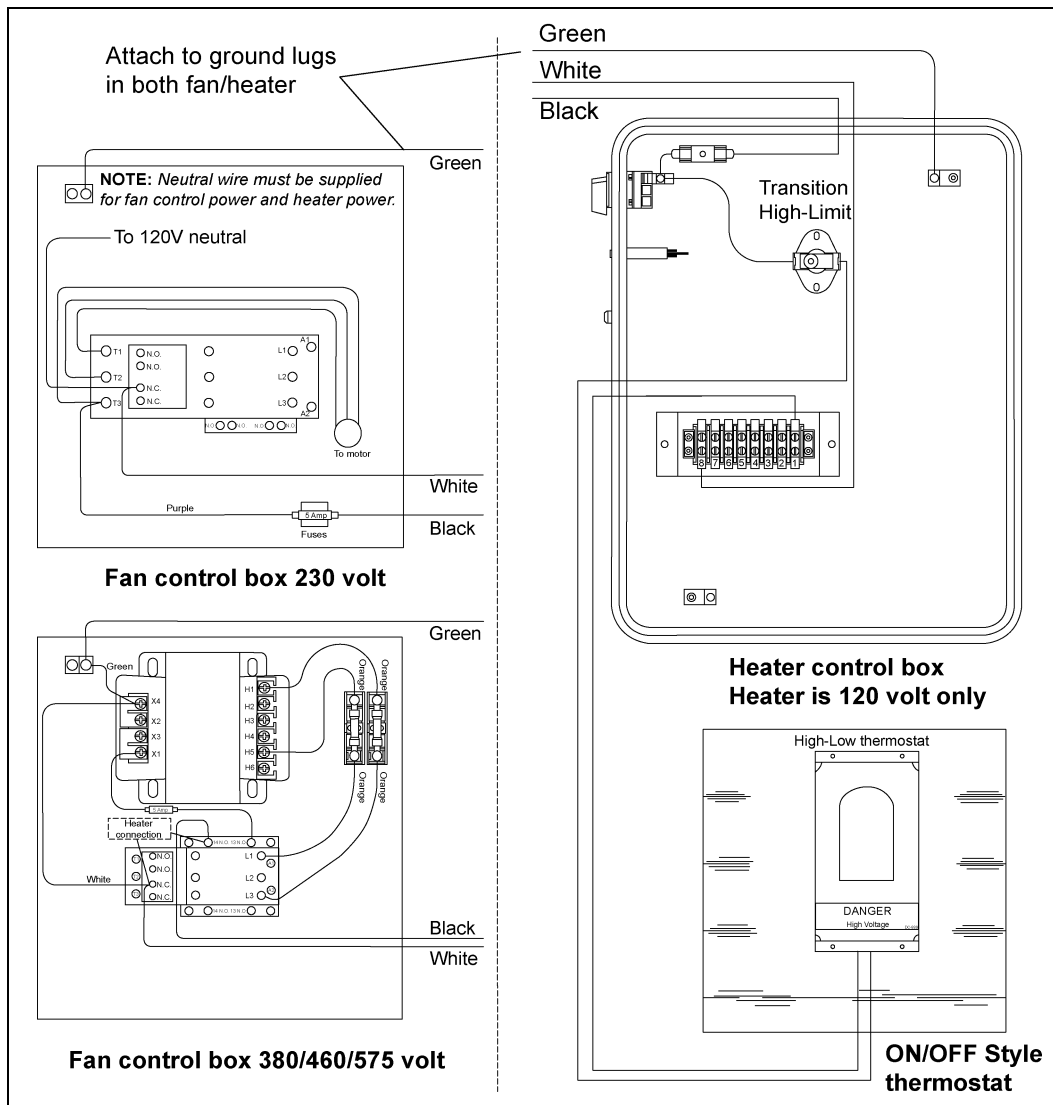

Figure 3A Heater Wiring Installation on a Fan Unit
2. Make field connections in fan box as shown in Figure 3A.
3. Connect deluxe thermostat control as shown in Figure 3A.